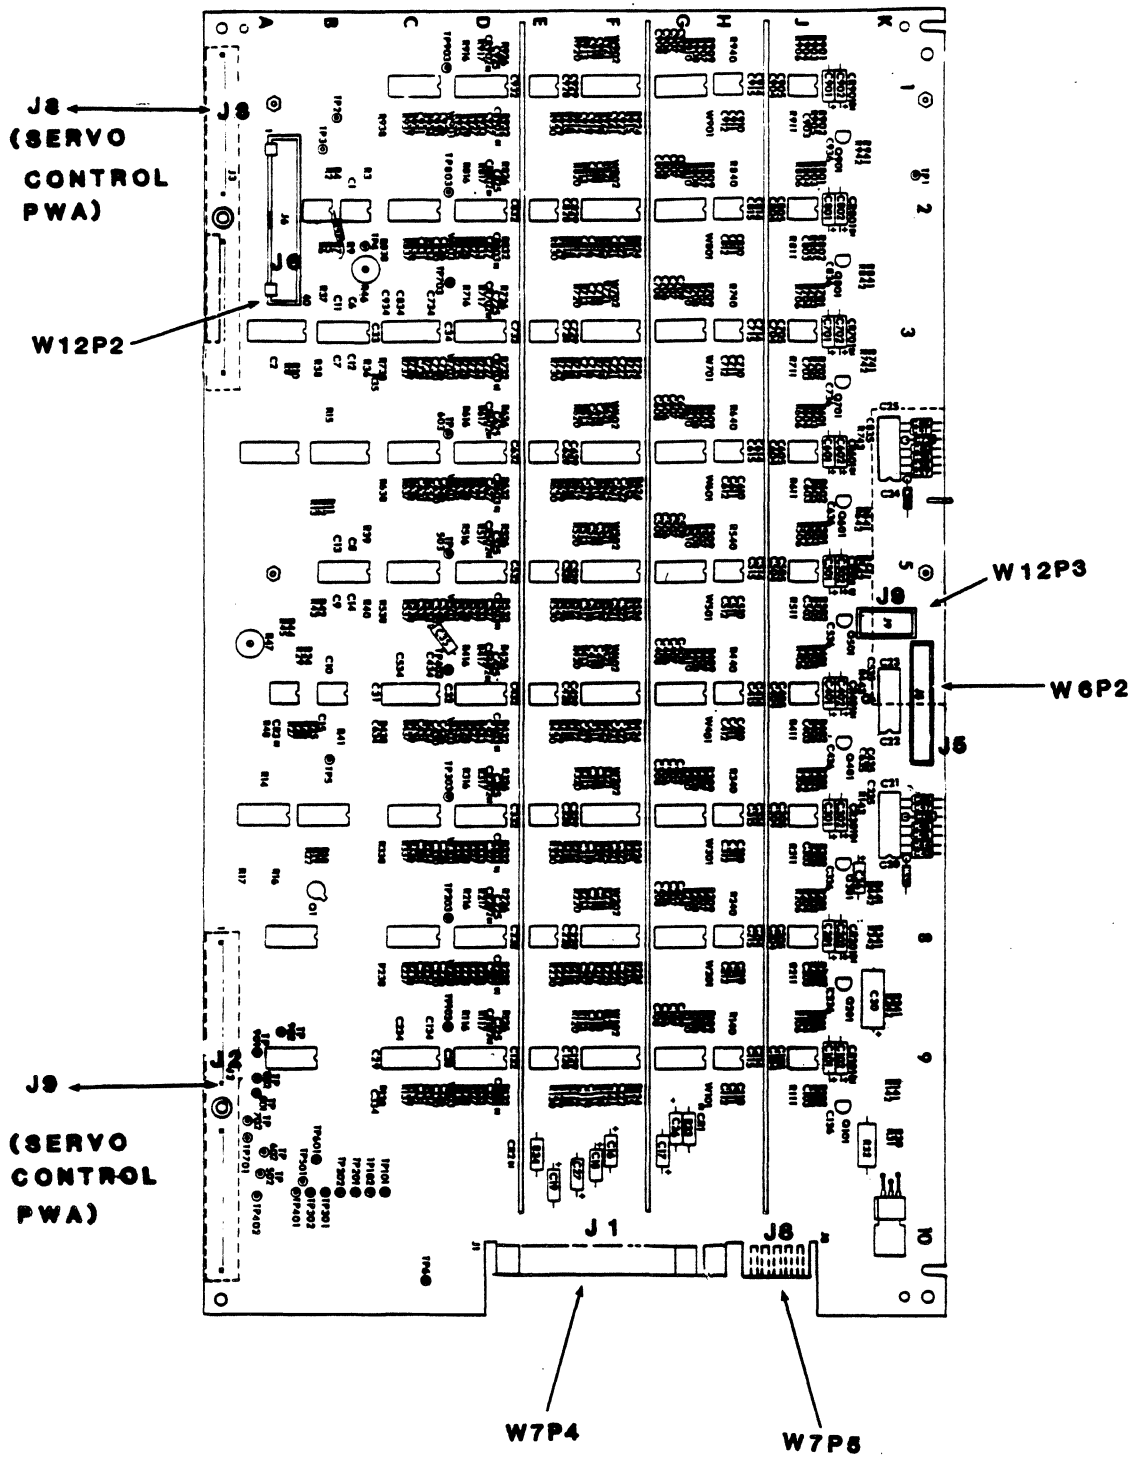

Figure 6-32. Read Amplifier PWA Connectors
4. Remove connectors W6P2, W7P4, W7P5, W12P2, and W12P3 from Read Amplifier PWA (see figure 6-32).